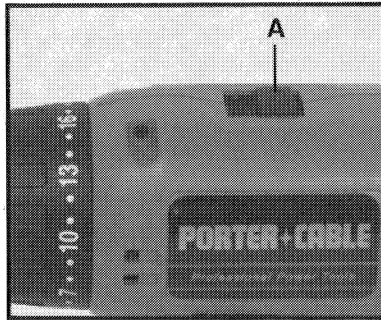

Fig. 4
The Model 863 Cordless Driver/Drill has a two-speed gear shift which provides spindle speed ranges of approximately: 0 to 350 RPM (LOW) and 0 to 1250 RPM (HIGH). To change speed ranges: release trigger switch to stop motor and then slide speed selector (A) Fig. 4, toward rear for HIGH speed or toward front for LOW speed.